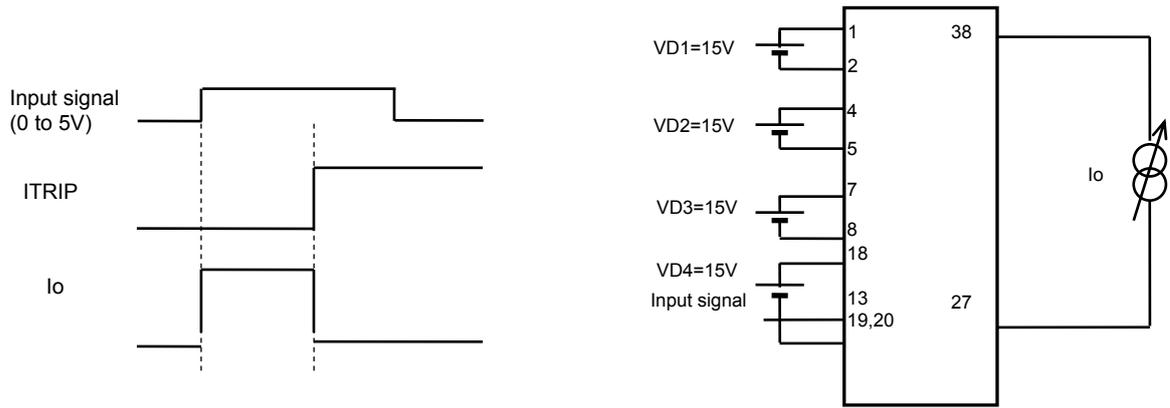

Fig.5
| ITRIP threshold voltage | VITRIP | ITRIP(17) to VSS(19) | Fig.5 | 0.44 | 0.49 | 0.54 | V |